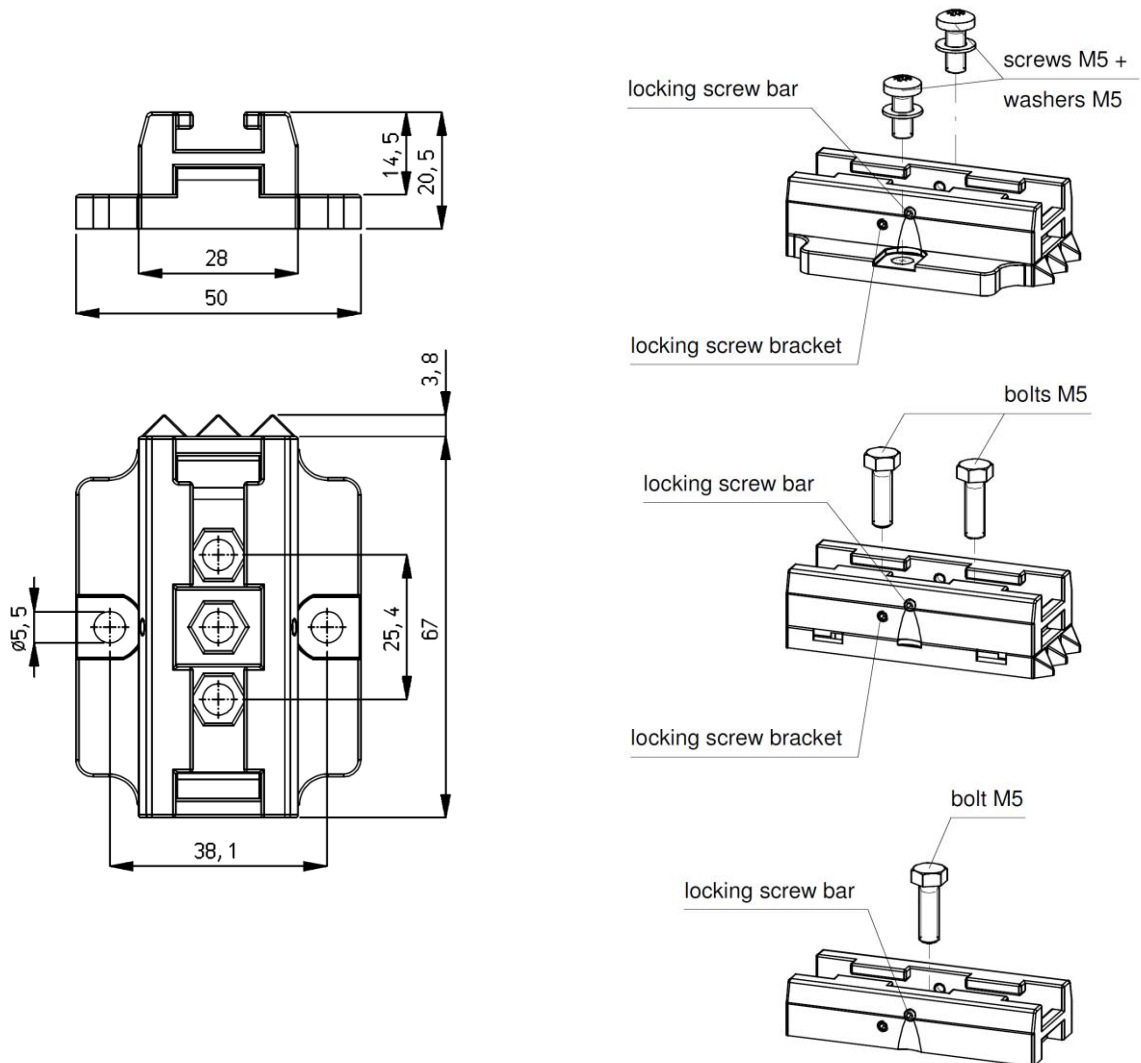

Figure 7: Dimensions and mounting options mounting brackets
- **Conductive machine parts close to an IQ Easy Sensor may have a negative influence on its effectiveness. For the best results the Sensor should be mounted according to figure 7.**
- Attach the mounting feet (1) on the machine. The triangles (2) have to point in the same direction. For mounting use appropriate M5 mounting material (3).
- Slide the brackets (4) onto the Sensor (5). Keep spacing of the brackets (4) and mounting foot (1) equal and lock the bracket (2) with the set screw (6).
- Lock the Sensor in the mounting feet by screwing the two adjusting screws (7) into the brackets. With more than two brackets, only the two outer brackets need to be locked.
- Unscrew the adjusting screws (nr. 7) from the brackets (see figure 7).